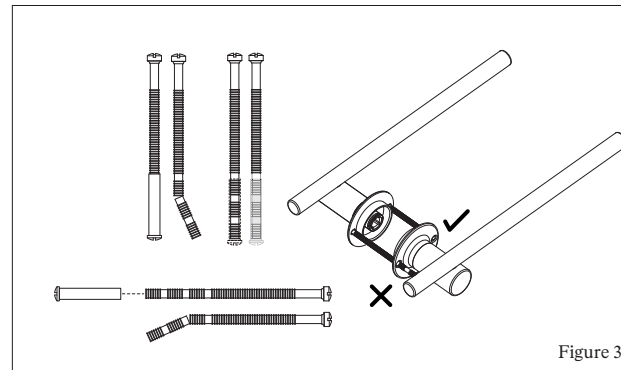

Figure 3
- 2.3 Ensure to cut so that the screw has enough thread (12mm at least) to hold female thread. (Figure 3)